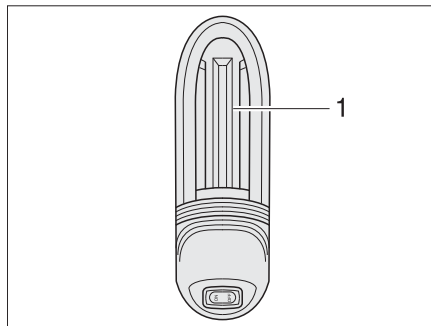

Fig. 314 Garage light
- Push the light covering (Fig. 314,1) up slightly and remove it.